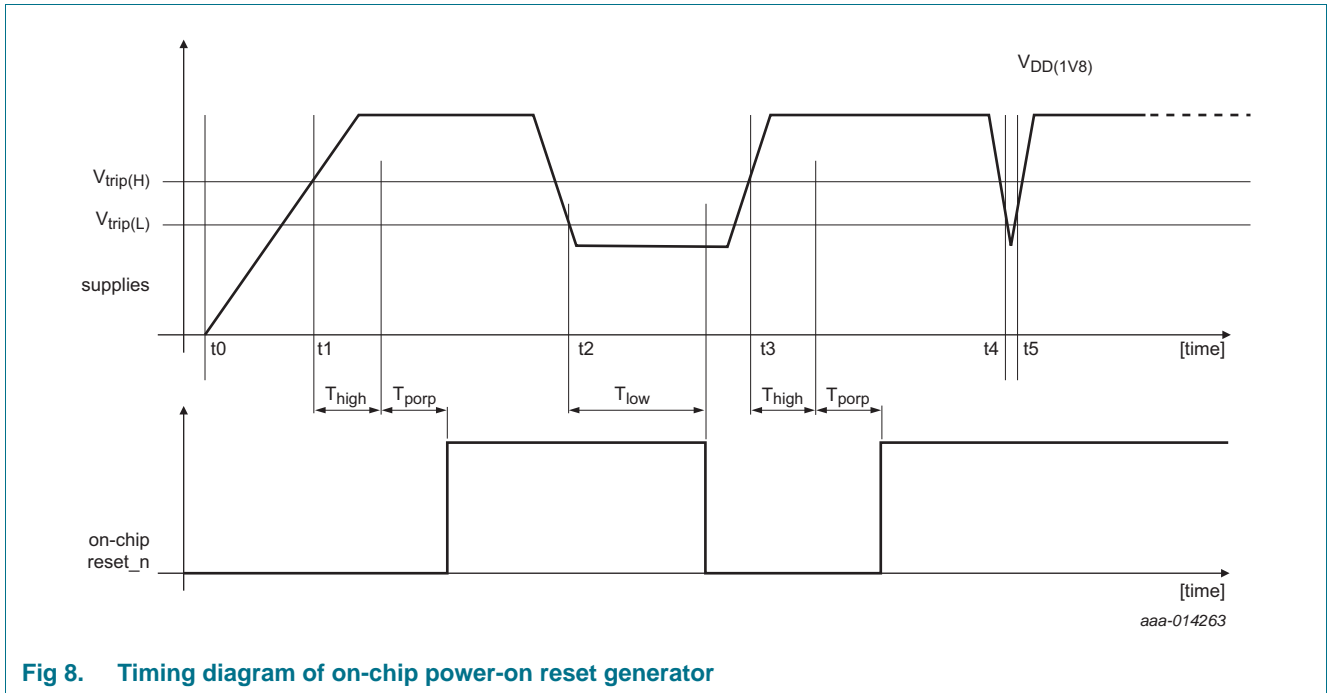

Fig 8. Timing diagram of on-chip power-on reset generator
Figure 8 shows a possible curve of the regulated VDD(1V8) voltage with dips at t2 to t3 and t4 to t5. The on-chip reset\_n (active LOW) starts active at t0. At t1, the voltage gets higher than the Vtrip(H) level and if this condition is maintained for a period longer than Thigh, a delay element will add another Tporp before the on-chip reset\_n is de-asserted. If the voltage drops below Vtrip(L) for a period longer than Tlow, the reset\_n is re-asserted. If the supply dip is shorter (eg. t4 to t5) the internal reset is not asserted. This means that voltage drops less than Tlow must be avoided in the system.